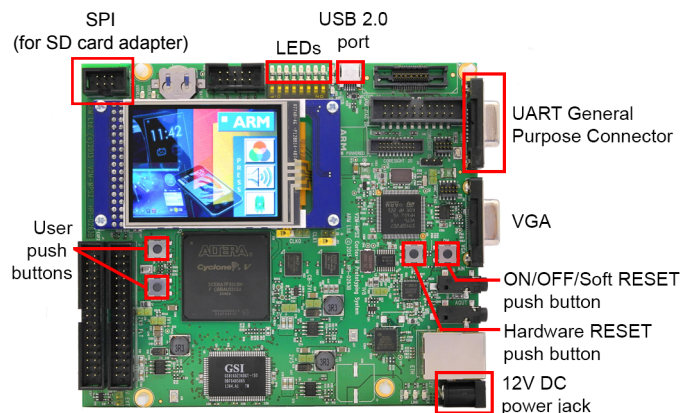

Figure 2-1 MPS2+ platform
3. Power up the MPS2+ platform using the ON/OFF/Soft RESET push button shown in Figure 2-1 MPS2+ platform on page 2-18. The LEDs flash in sequence to indicate that the new BIOS is being downloaded (this only occurs the first time when the BIOS is updated), and that the prebuilt image is being loaded onto the platform. Then, the color LCD touch screen shows an 'ARM IoT Subsystem for Cortex-M' splash screen. Simultaneously, if you have configured the UART to run a self-test program, then the debug UART terminal shows the self-test menu for Application Note AN511.